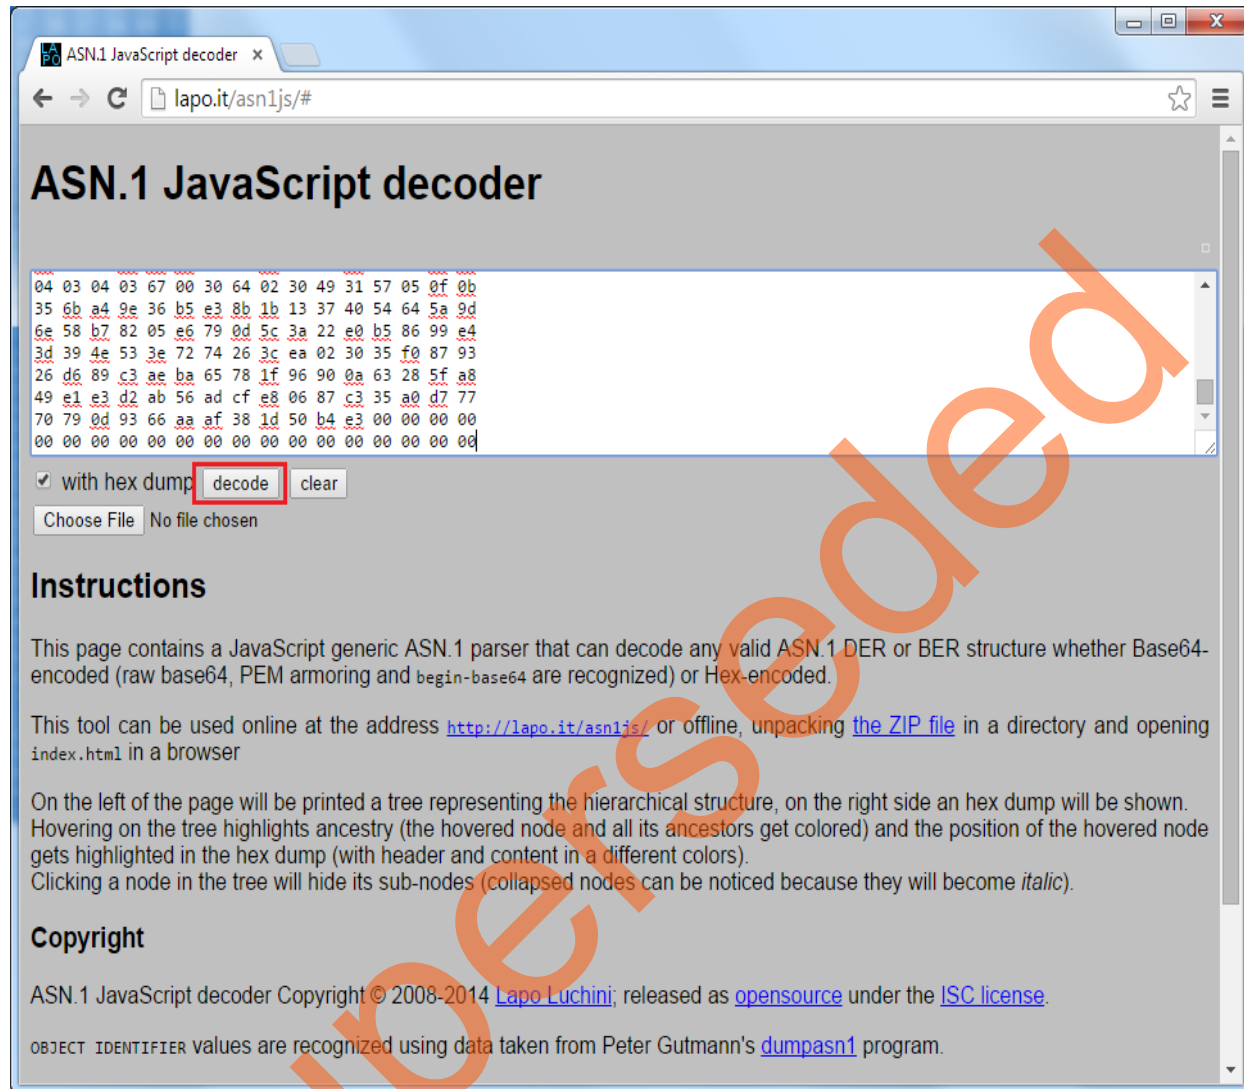

Figure 11 • Online Decoder with Decode Option
3. Copy the 768 Bytes HEX format device certificate from any serial terminal program and paste it in the online decoder as shown in the Figure 11.